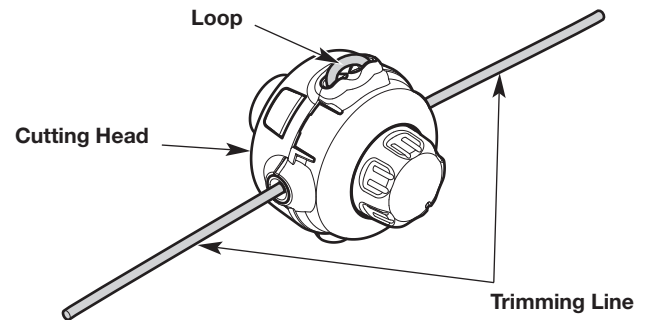

Fig. 30
1. Remove the old line from the cutting head. Push one end of the trimming line into the cutting head until a loop of line protrudes from the head. Pull the loop to remove the line (Fig. 30).
4. Pull the ends of the line until the line is tight against the cutting head. Make sure the ends of the line are of equal length (Fig. 30). If one end is longer than the other, push the longer end back through the cutting head partway and pull the shorter end out. If necessary, repeat this process until both ends are of equal length.
5. Press the exposed loop of trimming line until it is tight against the cutting head (Fig. 30).